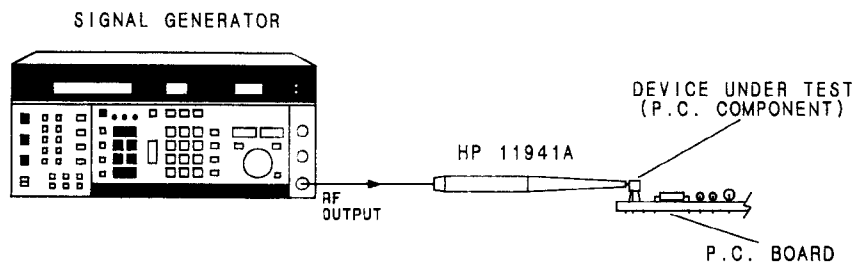

Figure 5. Localized Susceptibility Test Setup
**3-15. Localized Susceptibility Test Setup:** Used as a field source, the probe provides a magnetic field for susceptibility testing of electronic devices. The distance between the probe tip and the Device Under Test (DUT) should be less than 1 cm (0.394 in.) As the probe is moved closer to the DUT, the absolute magnetic field strength applied to the DUT approaches the calculated value produced at the probe tip. For broadband susceptibility testing, use the probe with a swept or tracking source. See figure 5 for an example of the basic localized susceptibility test setup.